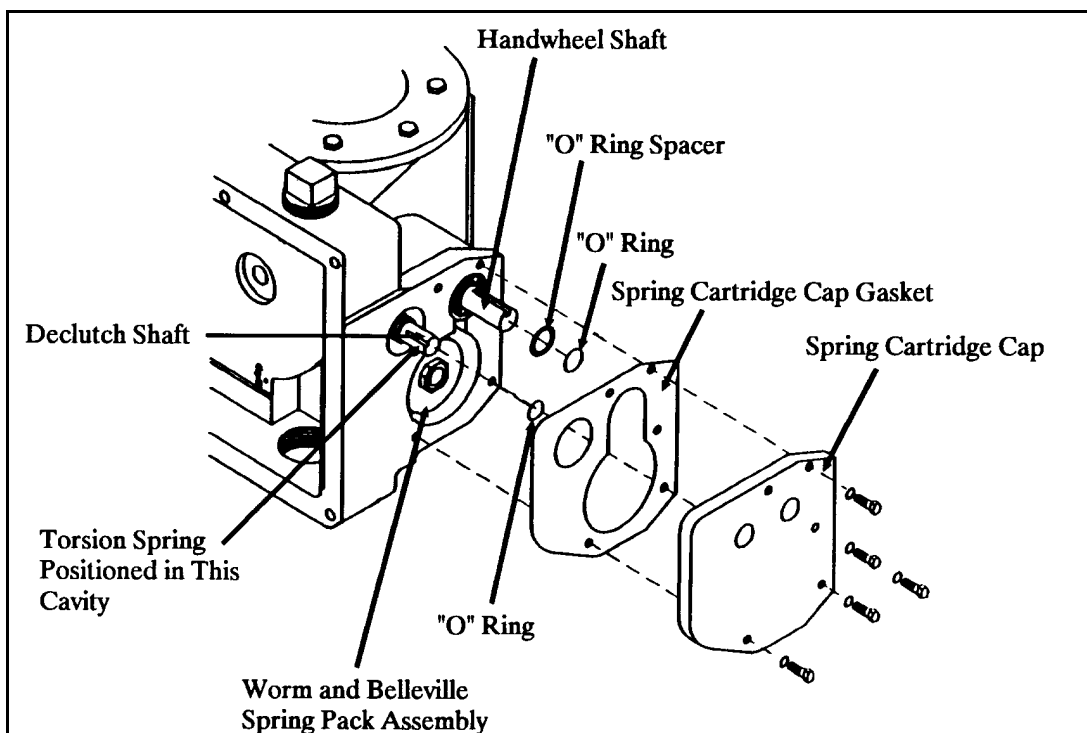

Figure 6-9 One Piece Spring Cartridge Cap
6. Spring Cartridge Cap/Worm Spring Pack Removal Refer to Figure 6-9
NOTE: On SMB-0 actuators the spring cartridge cap fasteners also retain the spring cartridge cap plate. (Not shown in Figure 6-9)